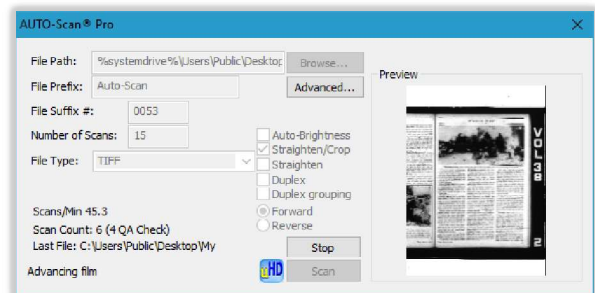

Figure 70
- AUTO-Scan Pro* (Figure 70) scans at up to 100 IPM for both film and standard fiche, or 70 IPM for Jacketed fiche when equipped with an AUTO-Carrier.